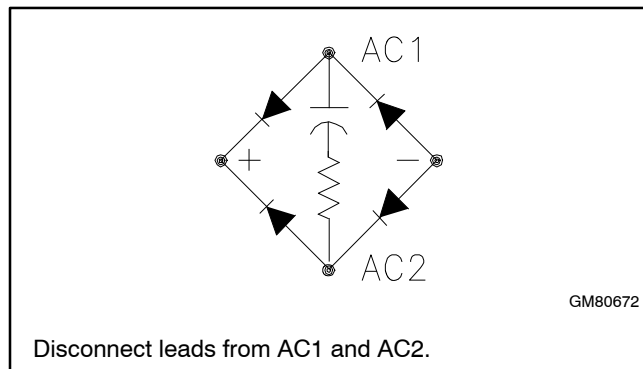

Figure 5-15 Rectifier Connections, Typical
1. Disconnect the leads from AC1 and AC2 of the rectifier for the emergency source (lower) coil. See Figure 5-15 and the wiring diagram in Section 6.